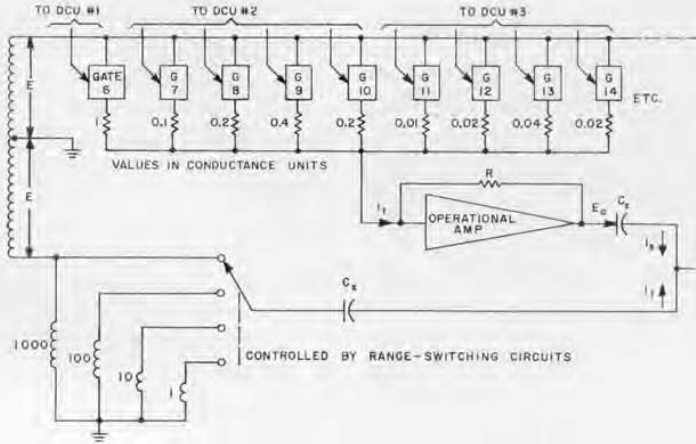

Figure 6. Resistive current-adding network used to control voltage on standard capacitor.
0.01% of full scale. Figure 6 illustrates the principle of the resistive current-adding network used for this purpose. The bridge voltage E is applied through transistor gating circuits to a series of weighted conductances. There are four conductances for each full counting decade, weighted in a 1-2-4-2 series to match the decade output code. If, for example, the unknown capacitor is 1.37 μF , the counting decades will continue to operate until the transistor gating circuits connect conductances weighted 1, 0.2, 0.1, 0.01, 0.02, and 0.04 (a total of 1.37) to the bridge transformer. When this condition is reached, a current of 1.37 units flows to the input of an operational amplifier and feedback resistor, which converts the current into 1.37 units of voltage to balance the bridge.